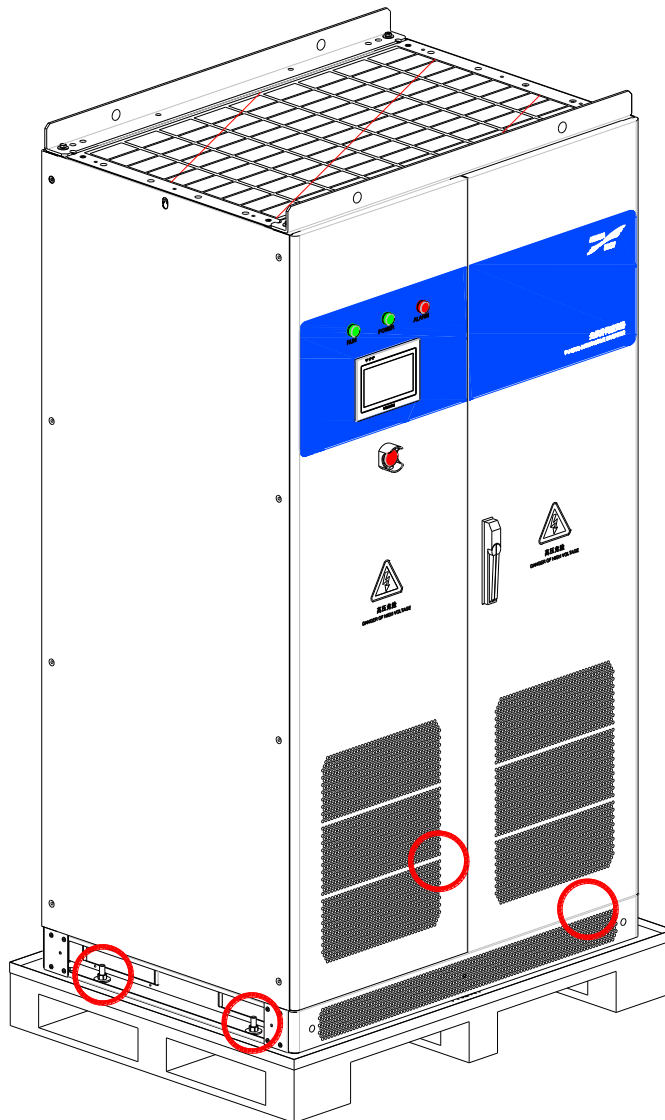

Figure3-9 The position of fastened bolts
- Step 4 Remove the bottom baffle at the side of the inverter, and then dismantle the 4 pieces of M12 bolts which are fastened the pedestal of the inverter and wooden bracket. The position of fastened bolts is as shown in Figure3-9.